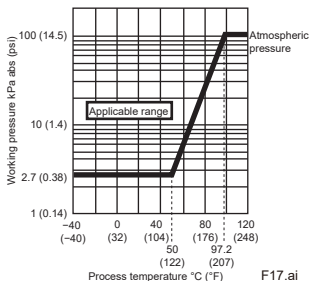

Fig.8-1 Working Pressure and Process Temperature
*2: Refer to Fig.8-1 if the pressure is below atmospheric pressure.